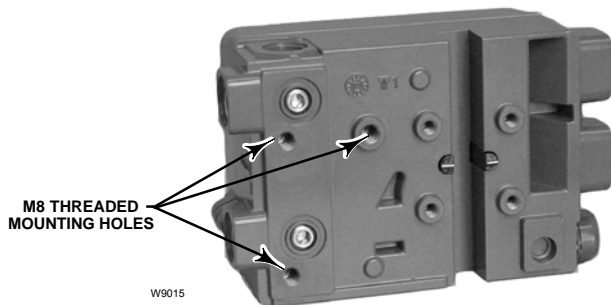

Figure 2-6. Mounting Holes for Linear Actuators
7. Mount the digital valve controller to the mounting bracket, using the mounting bolts. See figure 2-6.